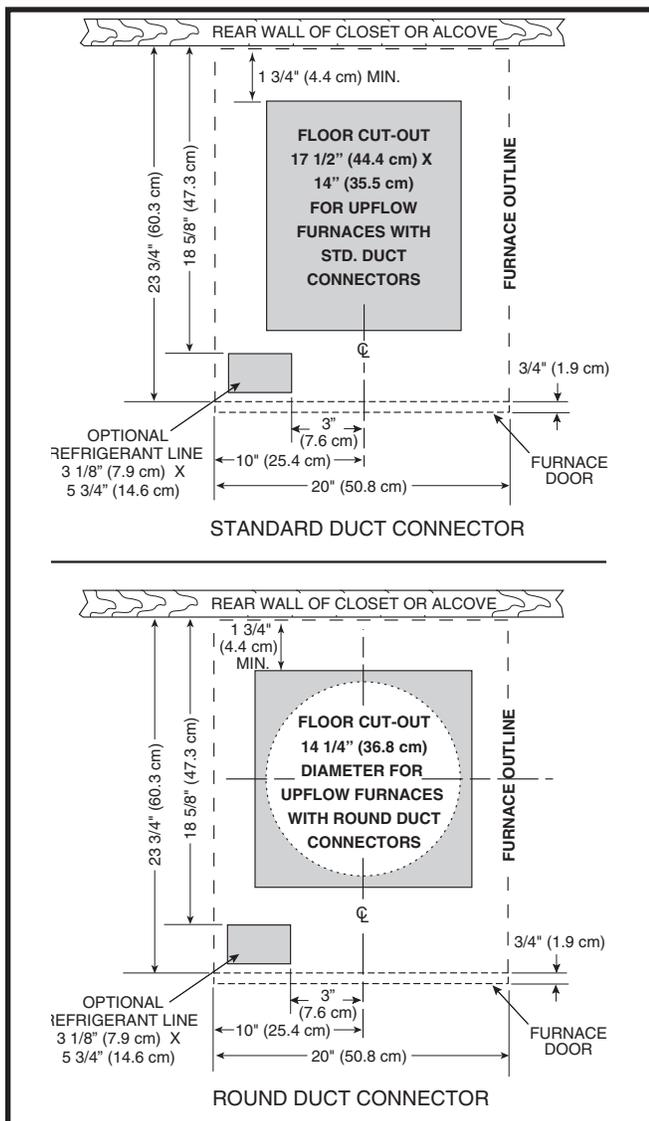
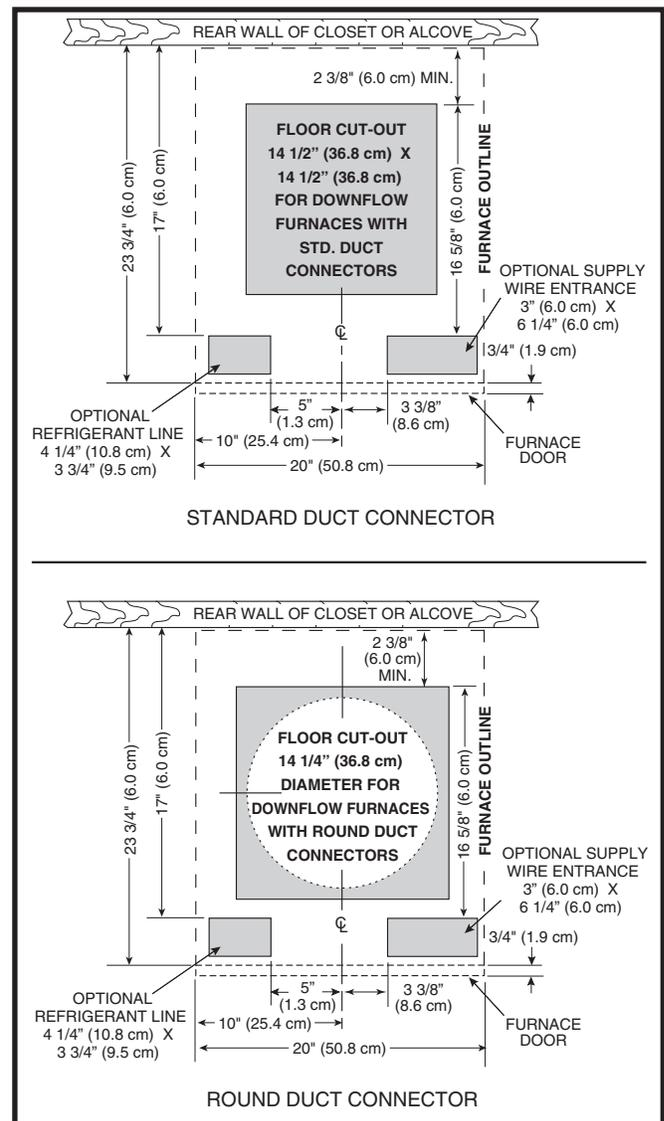

Figure 2. Cut-Out Dimensions for Upflow Appliances
Figure 3. Cut-Out Dimensions for Downflow Appliances
Floor cut-outs must be carefully located to avoid misalignment of the Appliance and air duct. Standard and round cutouts for upflow Appliances are shown in Figure 2 (page 6). The cutouts for downflow Appliances are shown in Figure 3 (page 6).
2. Using the centerline as a starting point, draw the rest of the duct cut-out to the dimensions shown in Figure 2 or Figure 3.
- a. Mark floor openings as shown in Figure 2 \(page 6\). Provide minimum clearances at rear and left side walls of closet for installation of Appliance and wiring.